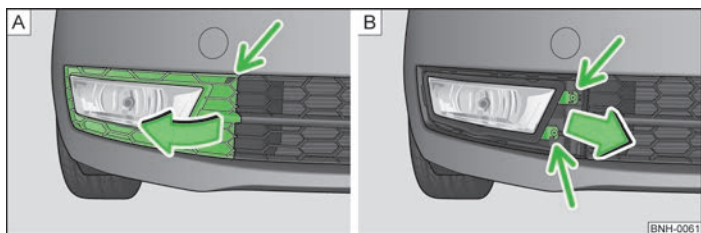

Fig. 130 Front bumper: Protective grille/removing the fog light
- Remove the protective grille by inserting the clamp for removing the wheel trims at the location » Fig. 130 - [A] indicated by the arrow » page 145, *Vehicle tool kit*.
- Remove the protective grille in the direction of the arrow » Fig. 130.
- Use the screwdriver from the tool kit to unscrew the fog lamp » Fig. 130 - [B].
- Replace the fog lamp by inserting it in the opposite direction of the arrow » Fig. 130 - [B] and tighten.